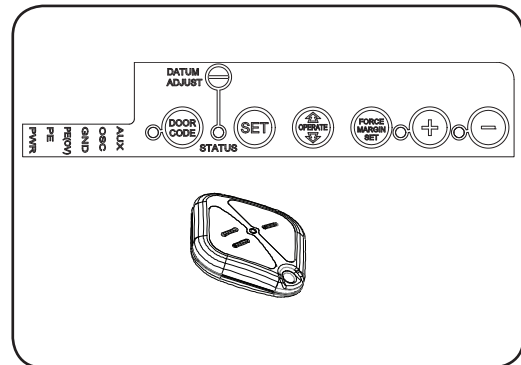

Fig. 35
- Press the same transmitter button again. The DOOR CODE LED will illuminate for one second and then go out, and the courtesy light will also switch off. This indicates the code has been stored. This indicates the code has been stored (**Fig. 35**).